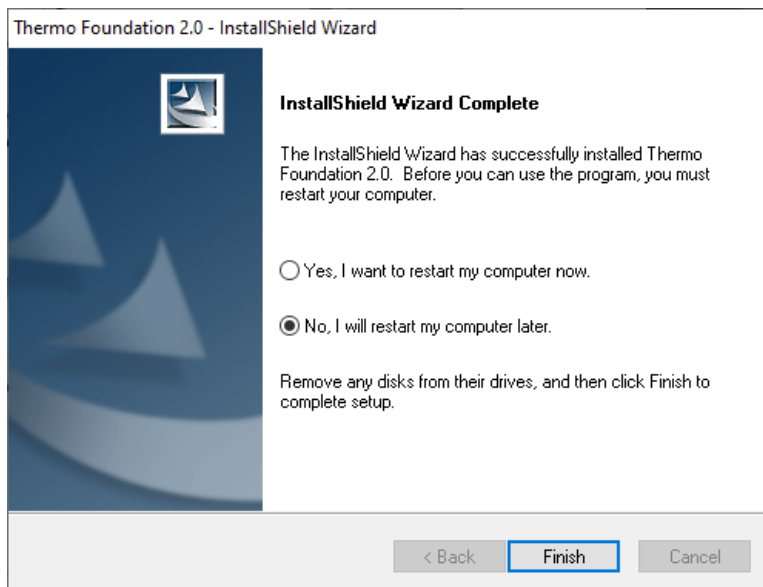

Figure 4-7. Installation complete
11. In the InstallShield Wizard Complete dialog, select **No, I will restart my computer later** and click **Finish**, see Figure 4-7.